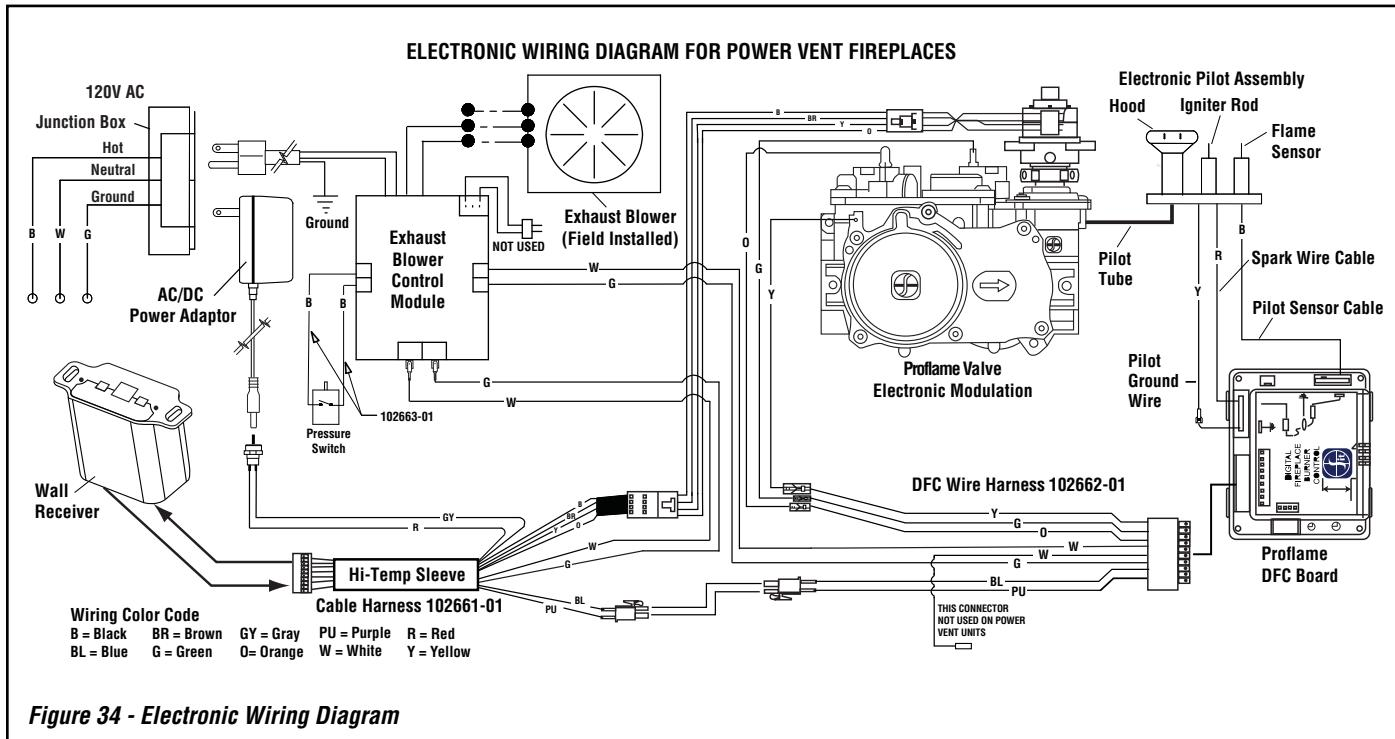

Figure 34 - Electronic Wiring Diagram
CAUTION: Ground supply lead must be connected to the wire attached to the green ground screw located on the outlet box. See Figures 34 and 35 on Page 25. Failure to do so will result in a potential safety hazard. The appliance must be electrically grounded in accordance with local codes or, in the absence of local codes, the National Electrical Code, ANSI/NFPA 70-latest edition (In Canada, the current CSA C22.1 Canadian Electrical Code).
Wiring: Fireplace (See Figures 34 and 35 on Page 25)
- Refer to **Figure 34 on Page 25** and install the electrical hardware on the fireplace end of the Romex wiring. Male terminals (#10) on the Black and White wires, and ring terminals (#9) on the ground wire. The termination end of the Romex will be connected to the termination with wire nuts (not provided).